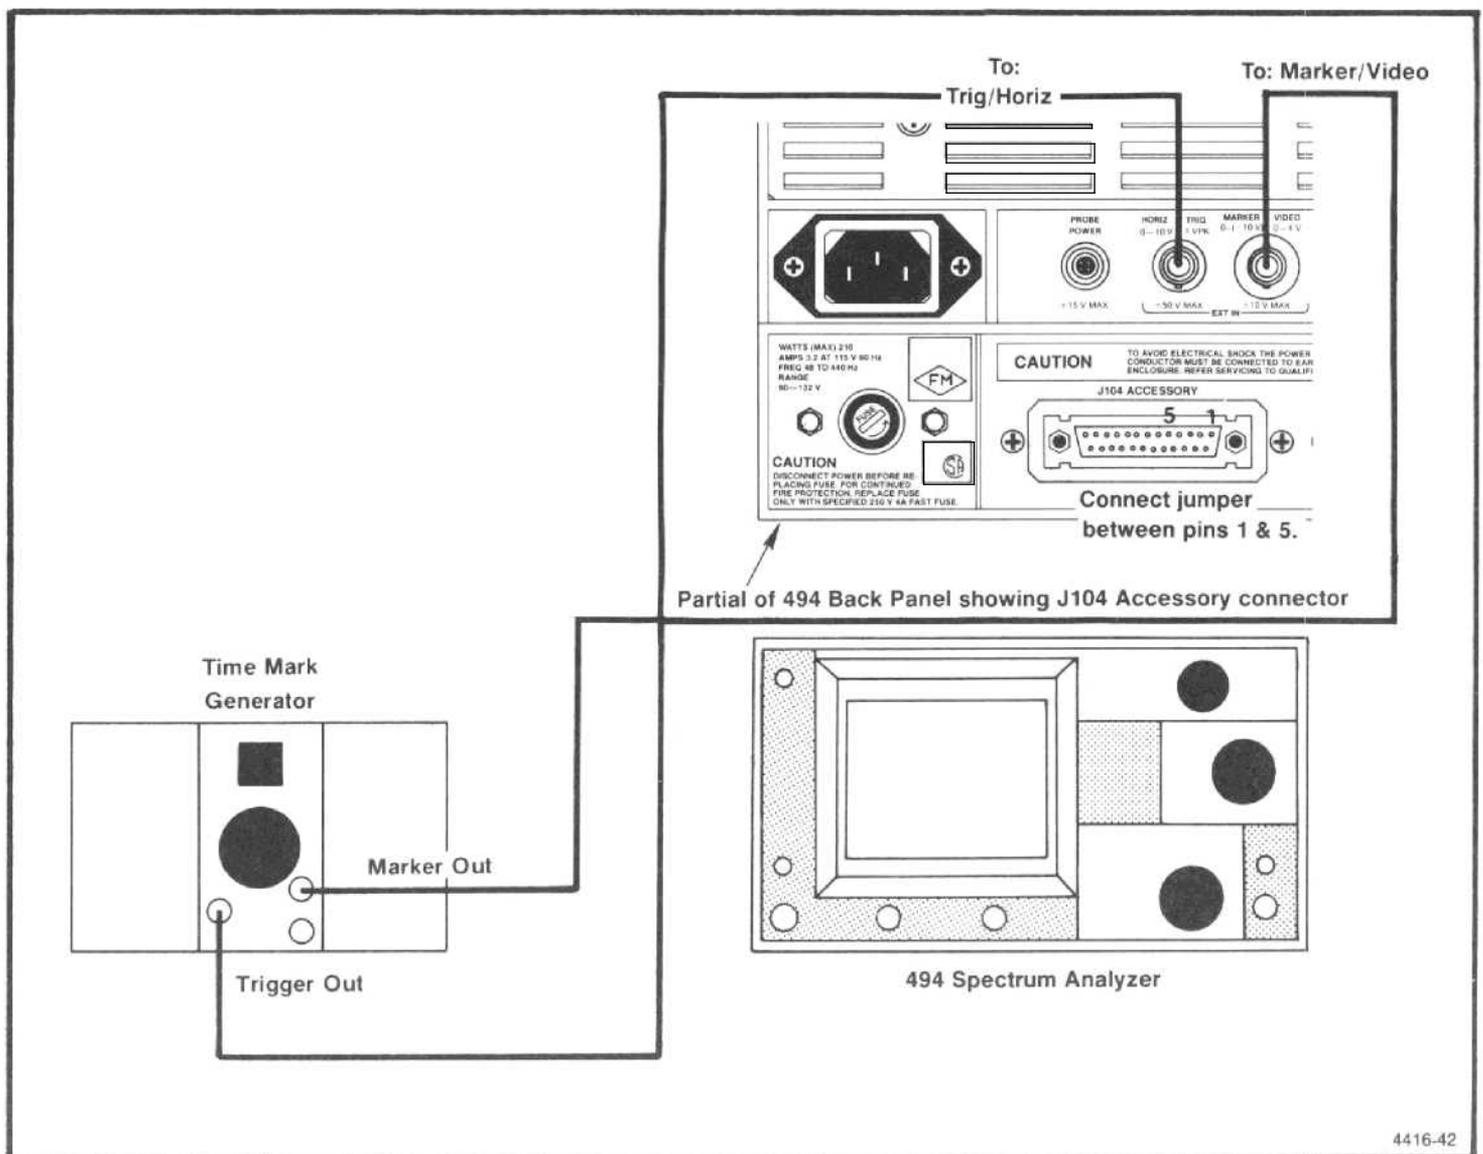

Figure 5-7. Test equipment setup for calibrating sweep timing.
a. Test equipment setup is shown in Figure 5-7. Select EXT Triggering, TIME/DIV of 10 ms, and a FREQ SPAN/DIV of 10 MHz or less. Digital Storage (VIEW A and VIEW B) must be off.